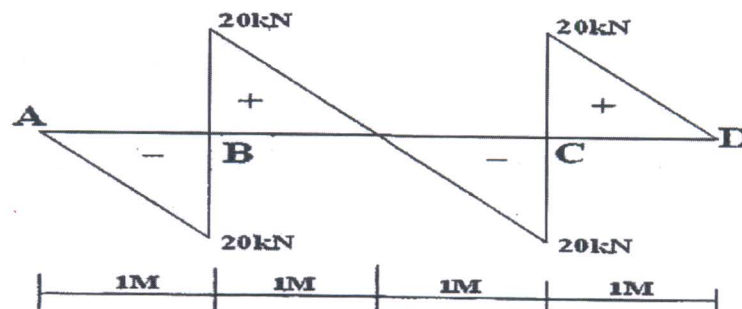

Fig. 4
- (b) For beam ABCD the shear force diagram is as shown in fig. construct the bending moment diagram from the given shear force diagram. No couple is acting on the beam (Fig. 4) [10]